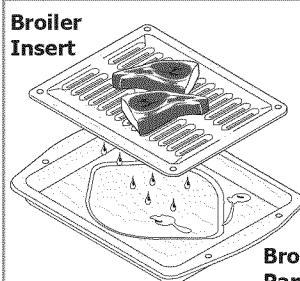

Figure 2
This mode is best for meats, fish and poultry up to 1" thick. Broiling is a method of cooking tender cuts of meat by direct heat under the broil element of the oven. The high heat cooks quickly and gives a rich, brown outer appearance. The **BROIL** pad controls the Broil feature. An optional Searing Grill, Broiler Pan and Insert are available via the enclosed accessories brochure (Figure 2 & 3). The optional broil pan and broil pan insert used together allow dripping grease to drain and be kept away from the high heat of the oven broiler. The oven can be programmed to broil at any temperature from 400°F to 550°F with a default temperature of 550°F.
- Always use the broiler pan and its cover when broiling. It allows the dripping grease to be kept away from the high heat of the broil element (see Figure 2).